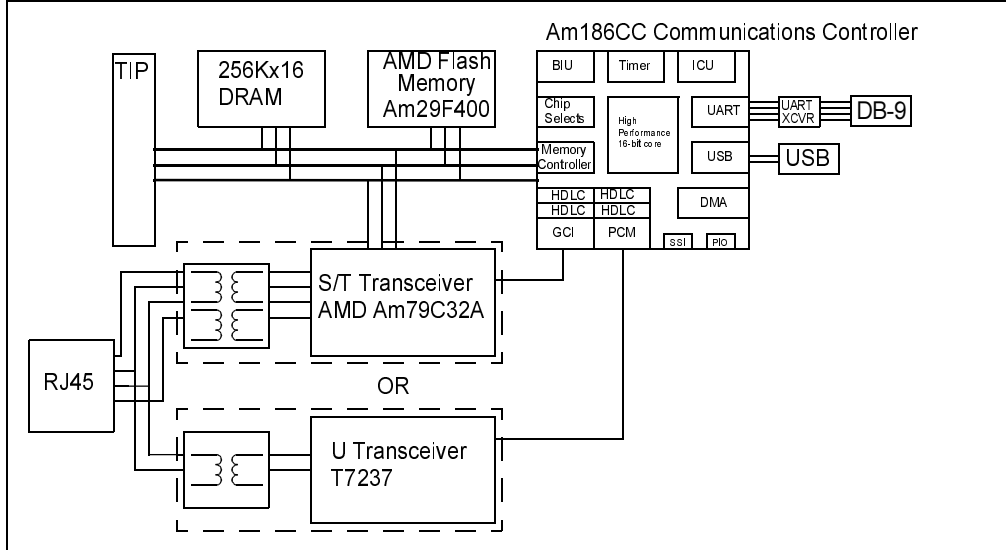

Figure 0-1. ISDN TA Reference Design Block Diagram
The Am186™CC communications controller ISDN terminal adapter (TA) reference design is designed as a small, cost-effective ISDN solution for embedded communications applications. This design is intended to reduce the time to market for ISDN designers using the Am186CC communications controller. Figure 0-1 shows a block diagram of the ISDN TA reference design.